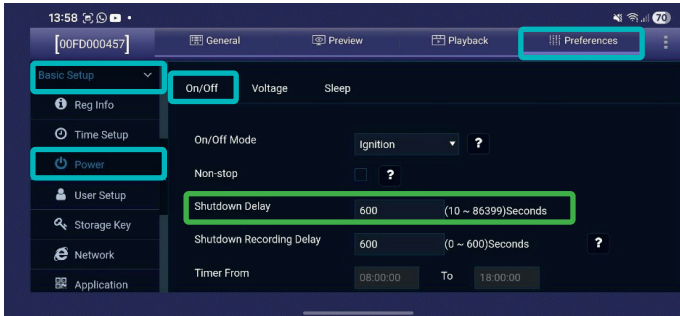

Fig. 7 If settings are changed, you must scroll down and select 'Save' to confirm.
- Set Shutdown Delay (e.g. 3600s = 1hr) (Fig. 7).